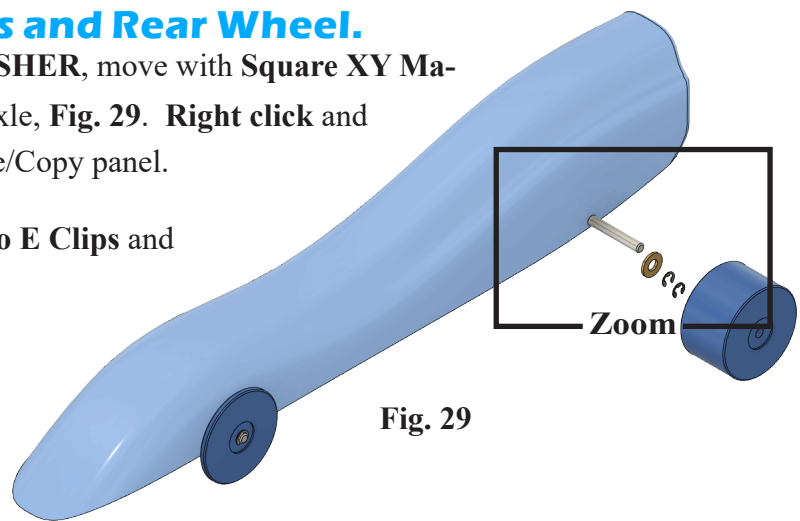

Fig. 29
Step 1. From the Data Panel insert **WASHER**, move with **Square XY Manipulator**  over to Rear Axle, **Fig. 29**. **Right click** and click **OK**  to close Move/Copy panel.
Step 2. **Repeat** and insert and move **two E Clips** and **Rear Wheel**, **Fig. 29**.
Step 4. Zoom in on the Rear Axle and inserted components, **Fig. 29**.